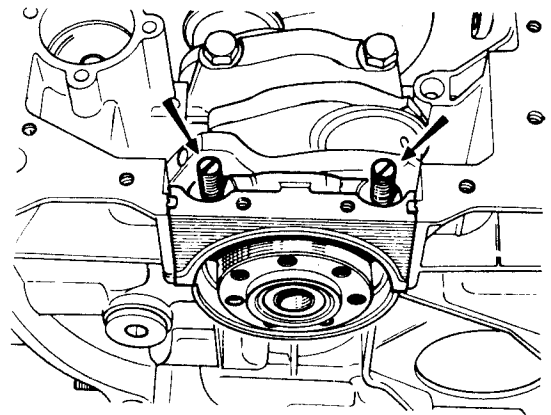

Fig.1.51 Locating studs temporarily fitted to No.1 main bearing cap
- 9 Fitting of the front main bearing cap is critical. Obtain two studs (10 mm x 150) and temporarily screw them into the crankcase. Tape the side seals (photo) to protect them during fitting and then carefully slide the bearing cap down the two studs, Fig.1.51. When the bearing cap is almost home, check that the side seals are still projecting, withdraw the protective tape and studs and fit the securing bolts (photo).